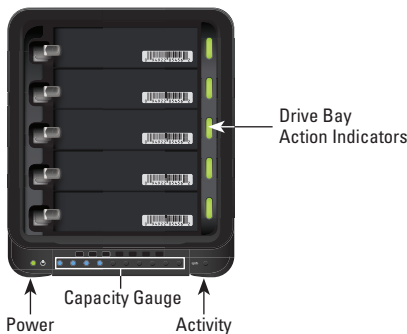

Figure 5: Indicator lights on a Drobo FS
1. Check that the activity light on your Drobo device is off, indicating that no data is actively being transferred to or from your Drobo device. Refer to Figure 5 or 6, below.
1. Check that the activity light on your Drobo device is off, indicating that no data is actively being transferred to or from your Drobo device. Refer to Figure 5 or 6 in the previous steps.